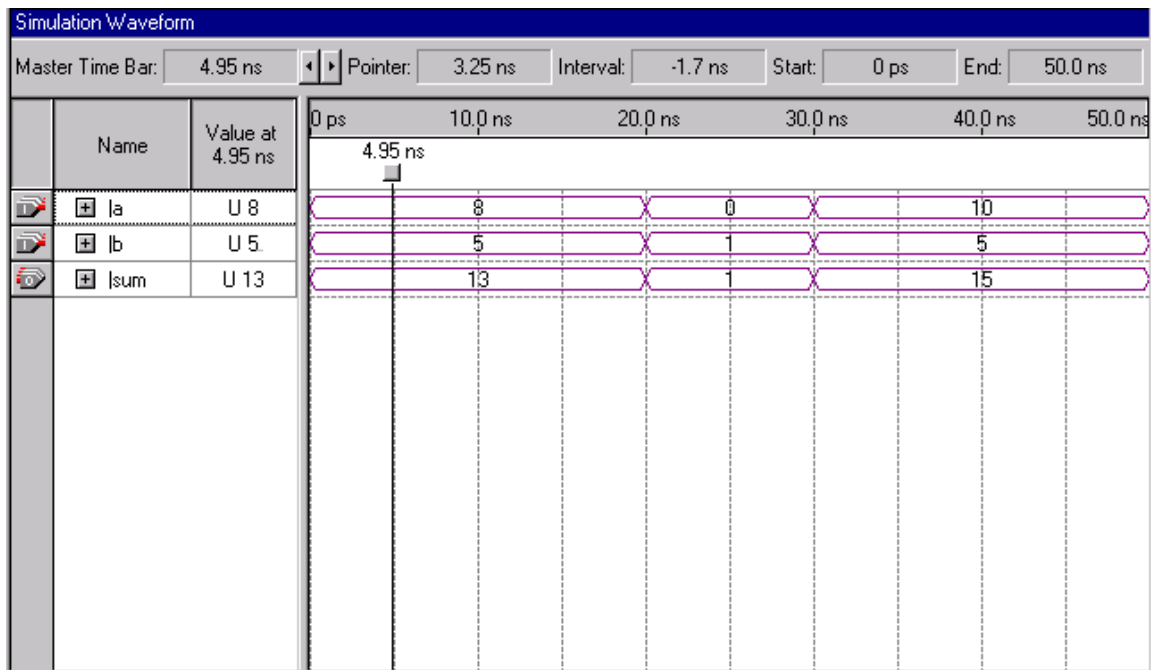

Figure 1-6.
7. Check to see if you get the same results shown in Figure 1-6.